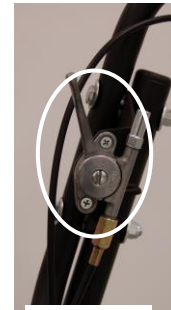

Fig. 1
2. Place throttle in "fast" position. (See Fig. 1)